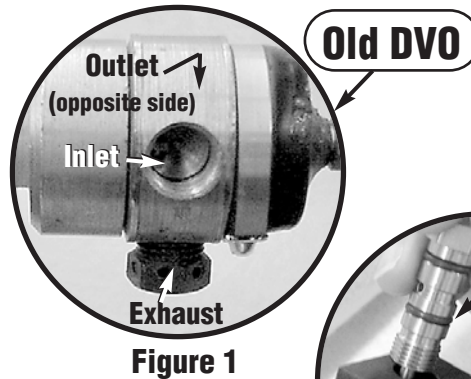

Figure 1
5. Using the proper tools, disconnect the Inlet, Outlet and Exhaust fittings from the existing DVO (see fig. 1). You will re-connect these to the new DVOA in a later step.